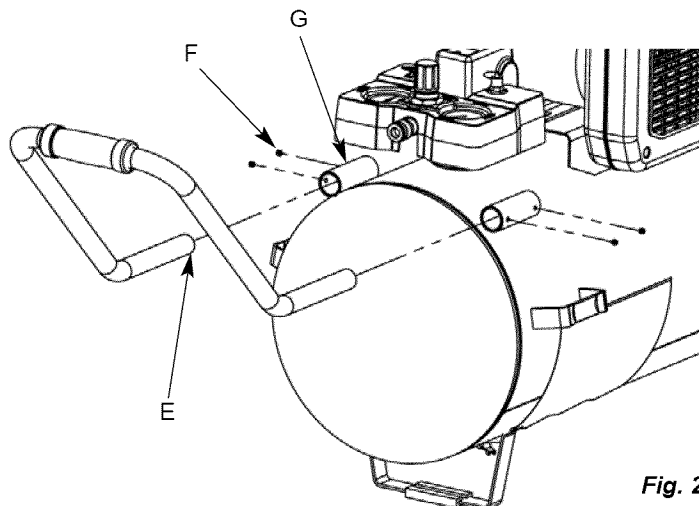

Fig. 2
3. Install the handle by loosening the set screws (**F**) and then placing the handle ends (**E**) into the handle brackets (**G**) and secure with the set screws (**F**) (see Fig. 2). Tighten screws using a size 3mm hex wrench (not included).